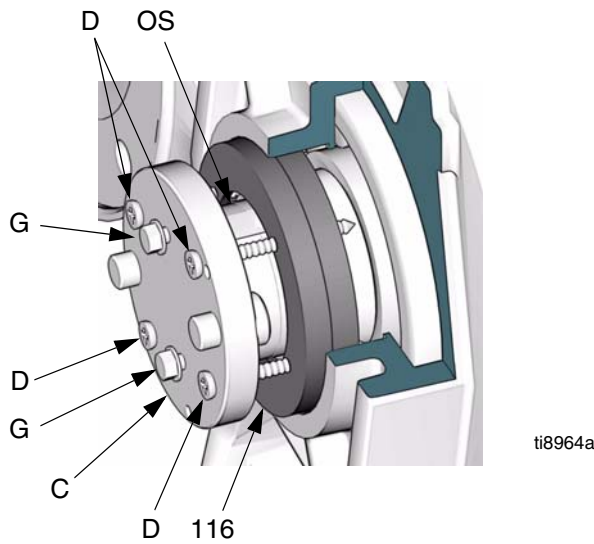

FIG. 8. Remove Output Shaft Seals
10. Remove the two output seals (116) as follows:
- See FIG. 8. Place the tool (C) onto the output shaft (OS). Turn the tool 90°. Install and tighten the two 0.5 in. (13 mm) screws (G) to lock the tool in place.
- b. Drill 1/8 in. (3 mm) diameter (maximum) pilot holes in the seals (116), using the holes for the sheet metal screws (D) as a template. Install the sheet metal screws (D) through the tool and into the seals (116).
- c. Tighten screws (D) evenly to pull both seals out.